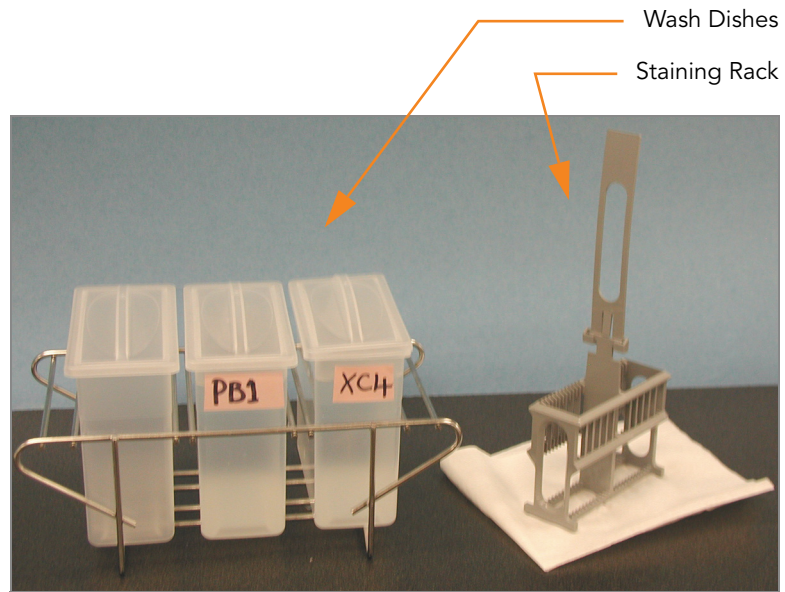

Figure 180 PB1 & XC4 Wash Dishes with BeadChip Rack
2. Set up two top-loading wash dishes, labeled “PB1” and “XC4” (Figure 180).